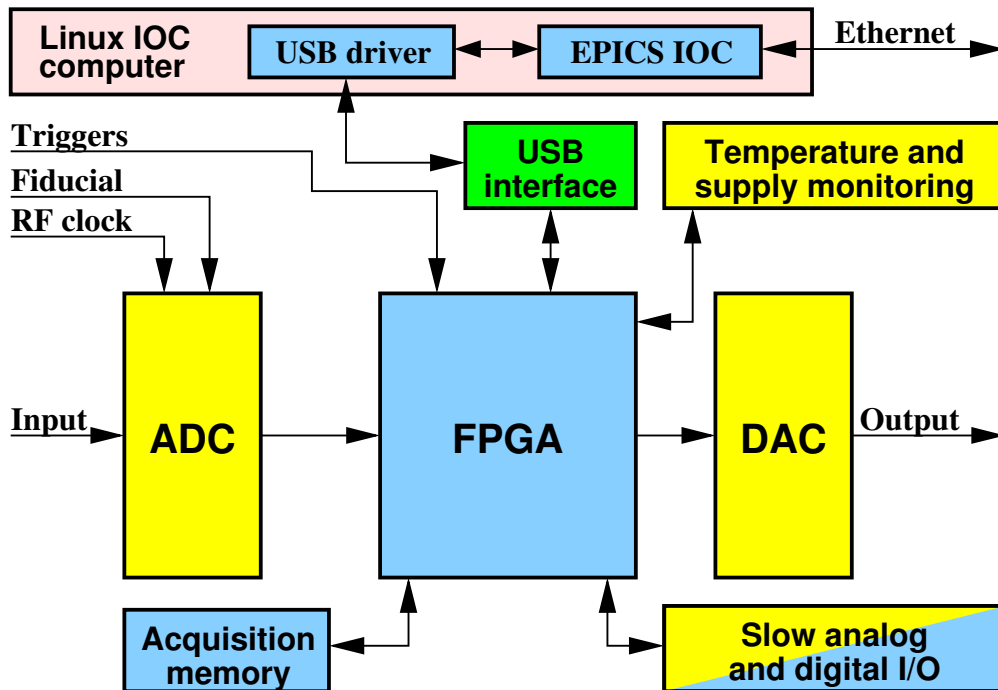

Figure 1: iGp12-864F block diagram
A top-level block diagram of the iGp12-864F system is shown in Figure 1. The main signal processing chain consists of a high-speed 12-bit analog-to-digital converter (ADC), a field programmable gate array (FPGA), and a high-speed 12-bit DAC, all driven by the radio frequency (RF) clock. In addition to performing real-time control computations, the FPGA interfaces to a number of on-board devices, such as high-speed data acquisition memory (static random access memory (SRAM)), low-speed analog and digital input/output (I/O), as well as temperature and supply voltage monitors. In turn, the FPGA uses an internal universal serial bus (USB) connection to communicate to an embedded input-output controller (IOC) computer housed in the same chassis. The IOC runs the Linux operating system and is connected to the overall control system via the Ethernet.